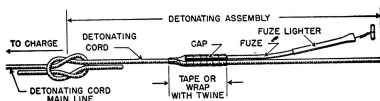
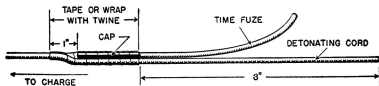

FIGURE 95.—Detonating assembly.
FIGURE 96.—Attaching cap to detonating cord.
made by binding a nonelectric cap to a piece of detonating cord (as shown in fig. 96), allowing sufficient length of detonating cord to tie a square-knot splice to the charge. Time fuze is crimped to the cap, and a fuze lighter is crimped to the other end of the fuze. (See fig. 95.)
■ 52. NONELECTRIC CONNECTIONS.—*a. To attach cap (electric or nonelectric) to detonating cord.*—Lay the cap and time fuze alongside the detonating cord, with the cap pointing in the direction of the charge. Bind the cap and detonating cord securely together, using either friction tape or twine, as shown in figure 96.